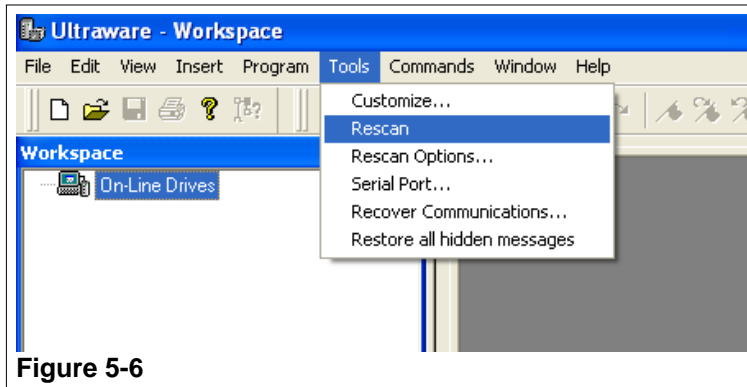

Figure 5-6
- Step 4. Select Tools and then Rescan inside of the Ultraware. (Figure 5-6)